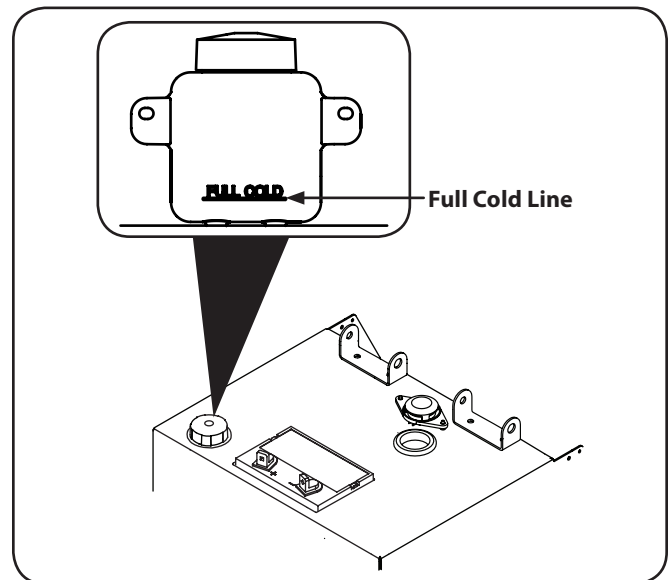

Figure 6-2
1. Pivot the operator's seat forward and clean the reservoir cap and the area around the cap to prevent debris from contaminating the transmission oil. See Fig. 6-2.
2. Turn the reservoir cap counterclockwise to re-move, then check the oil level in the reservoir. Oil should be visible at the bottom of the cup, but the oil level must NOT be above the "FULL COLD" line. See Fig. 6-2. **DO NOT FILL THE RESERVOIR.**